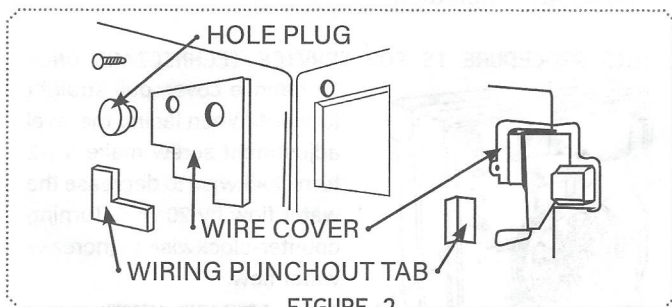

FIGURE 2
2. Interior condenser models are prewired. If your model isn't prewired, contact your dealer for the correct kit. Prewired units have protective plugs and covers over the water and electrical connections. Using a screwdriver or putty knife, gently remove these plugs. See Figure 2. For Condenser Back models use the supplied harness, See Step 9.